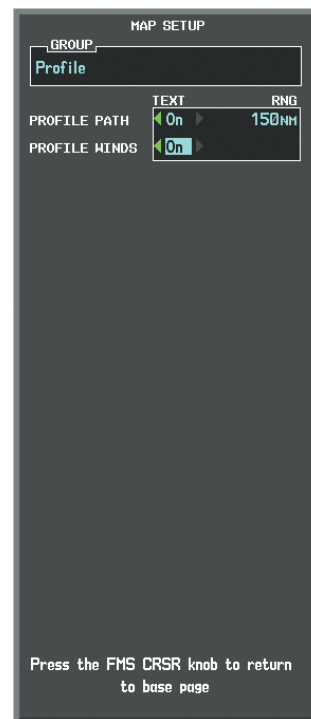

Figure 6-37 Navigation Map Page Setup Menu, Weather Group
- 5) Turn the large **FMS** Knob to select 'Profile Winds' (Figure 6-37).